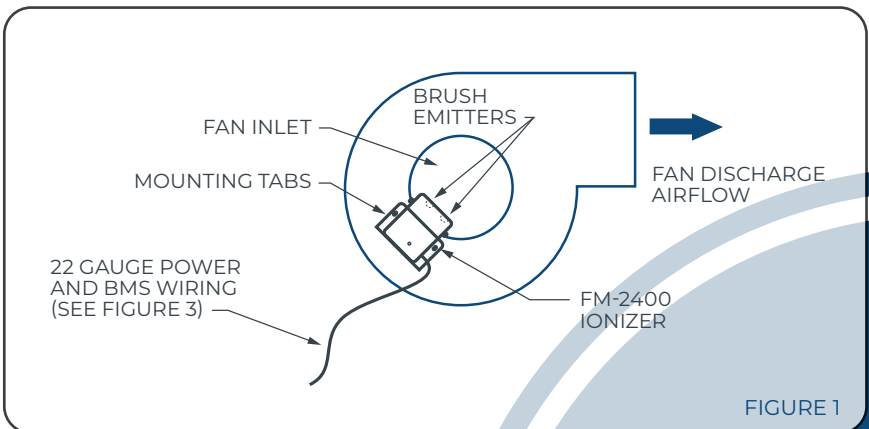

FIGURE 1
1. Mount the ionizer at the inlet of the fan using the integrated magnets. The ionizer can also be mechanically fastened to the fan housing using #6 or #8 self-tapping sheet metal screws through the mounting tabs. Ensure that the screws don't interfere with the fan blade rotation. Don't use screws longer than necessary. (See Figure 1). The ionizer may also be mounted downstream of the fan if the fan inlet area is not accessible.